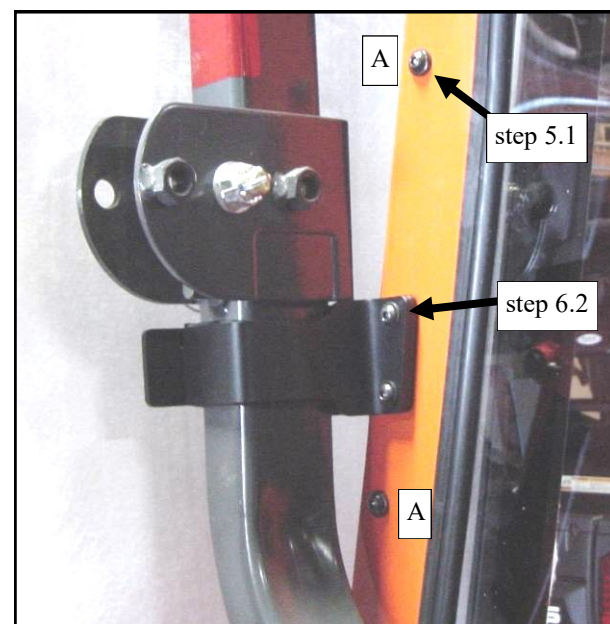

Fig. 5.1 (view of left side of tractor)
5.1 Temporarily fold the R.O.P.S.. Per fig. 5.1 and with assistance, install the hard rear panel from above, oriented so the upper bent flange is pointing towards the front of the tractor. Use the following hardware to attach the hard rear panel to the back side of the side frames at location "A" (2 places per side of tractor): four 5/16 x 3/4" long hex flange bolts, four plastic washers and four flange locknuts. Do not tighten the bolts. Repeat for right side frame attachment.